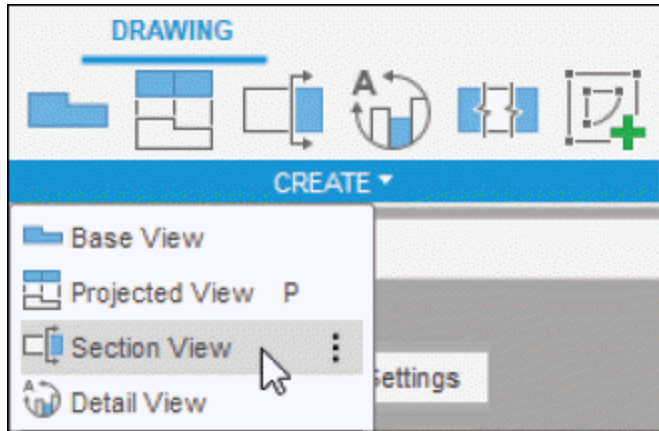

Figure-12. Section View tool
- Click on the **Section View** tool from **CREATE** panel; refer to Figure-12. The tool will be activated.